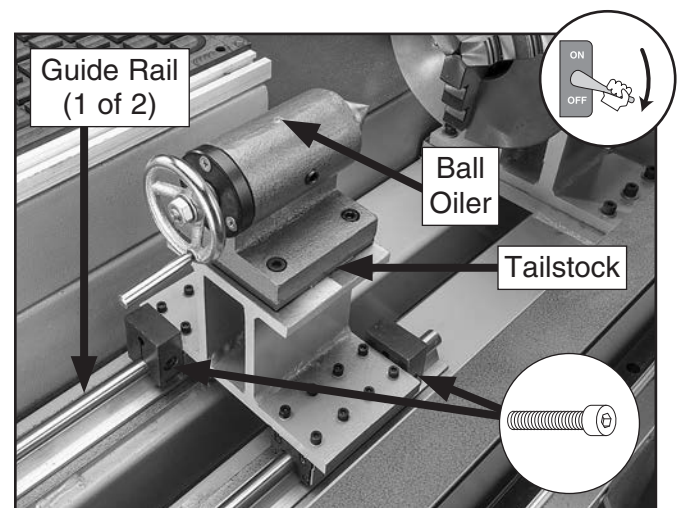

Figure 77. Tailstock guide rails lubrication.
2. Clean tailstock guide rails with a brush and mineral spirits to remove grime and old lubrication (see **Figure 77**).
3. Use a clean shop rag to wipe entire length of guide rails with Grizzly T27914 or ISO 68 equivalent (see **Figure 77**).
4. Loosen (1) cap screw on each guide rail lock, and move tailstock and locks along entire length of guide rails to spread lubricant and ensure smooth movement (see **Figure 77**). DO NOT remove cap screws!
5. Clean outer surface of tailstock ball oiler (see **Figure 77**) to remove any dust or grime. Push tip of oil can nozzle against ball oiler to create a hydraulic seal, then pump oil can once or twice. When finished, wipe away any excess oil.